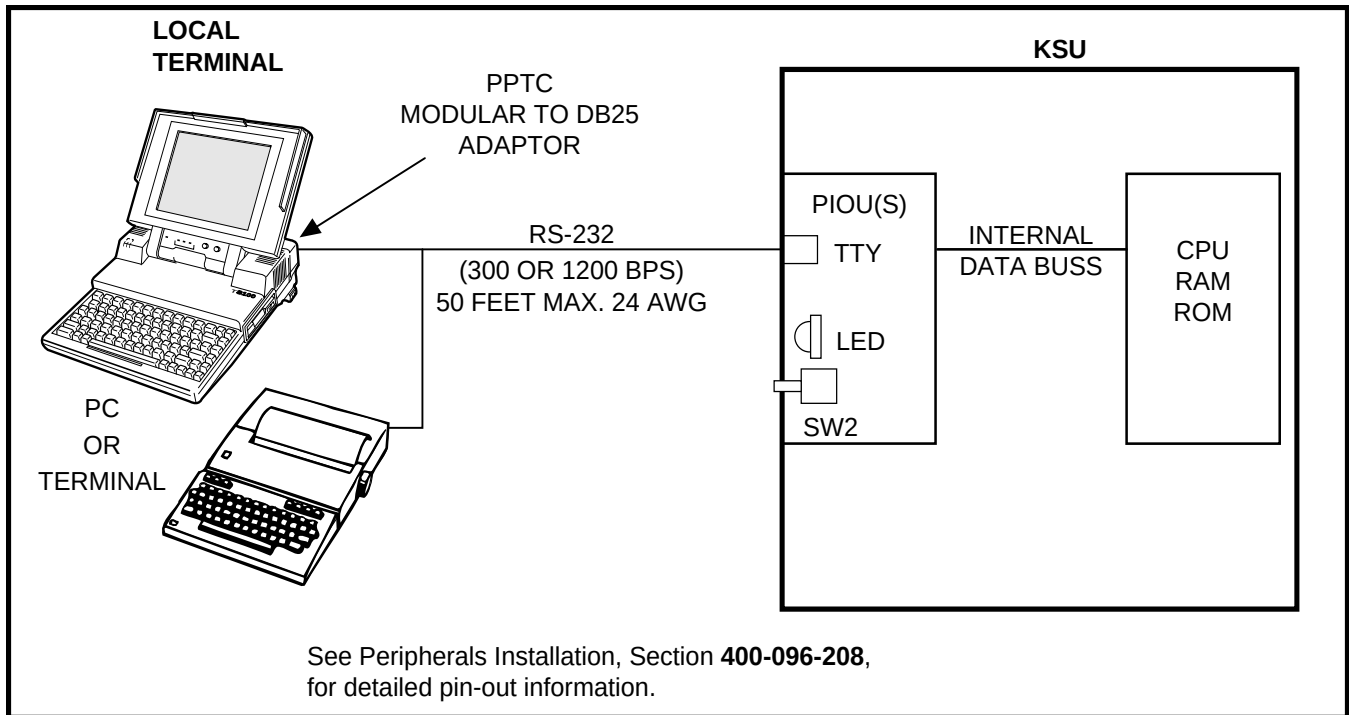

FIGURE 2
5.02 The local terminal must have an EIA RS-232 interface, communicate in ASCII code (seven bit word length/one stop bit/even parity) at 300 or 1200 bps, have a standard typewriter-type keyboard, and display data via a CRT display or printer. A personal computer capable of emulating the described terminal may also be used (see Figure 2 and Paragraph 15).
5.11 Refer to Figure 2 and verify that the local terminal is connected and set-up as follows: